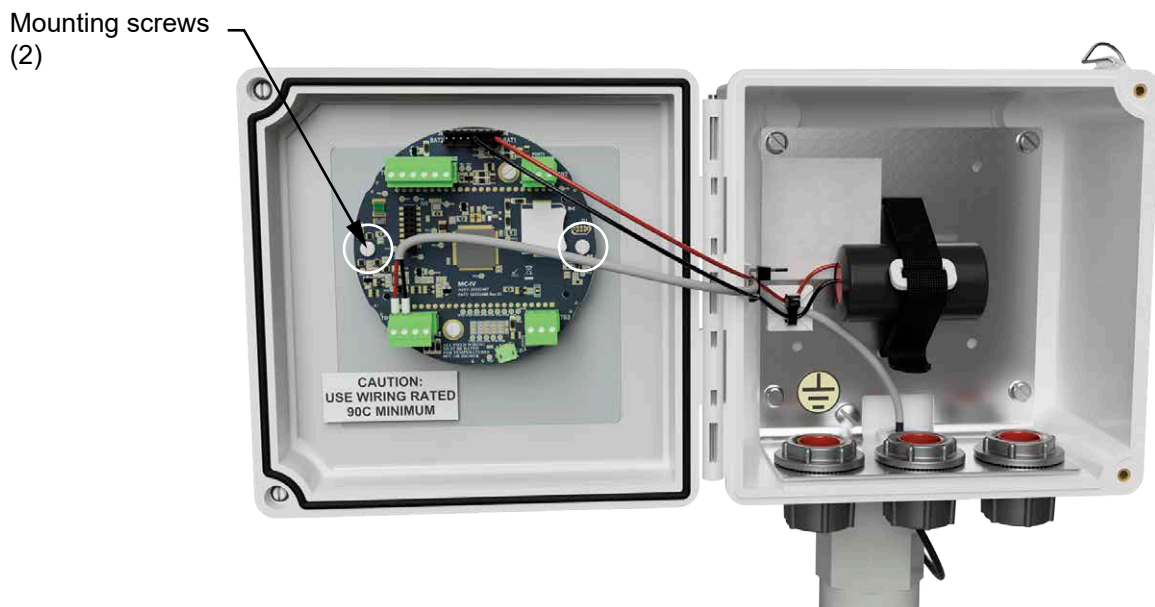

Figure A.1—Removal of faceplate assembly
3. Using a small standard blade screwdriver, remove the two #4-40 × 7/8" screws used to mount the display assembly to the door (Figure A.1).